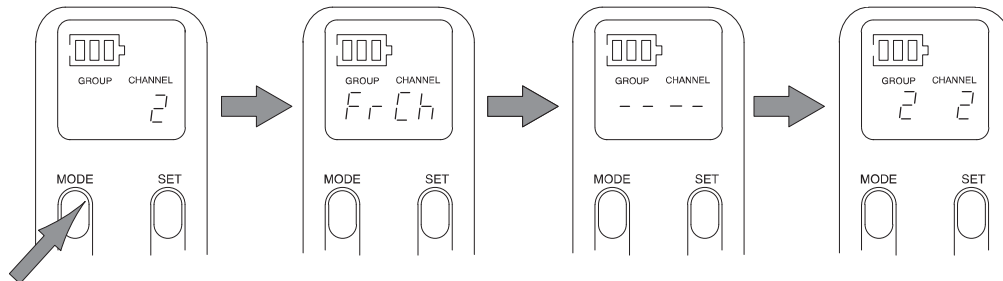

FIGURE 29
6. Press the MODE button again to select the new Channel setting. "FrCh" will appear briefly on the display, indicating that the frequency has changed. Then the new Group and Channel settings will appear. Refer to Figure 29.